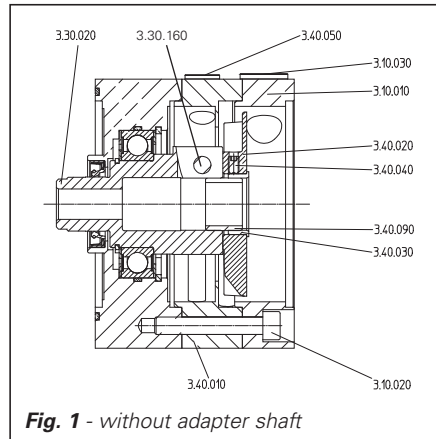

Fig. 1 - without adapter shaft
2.1 Fan mounting for units without adapter shaft (Fig. 1)